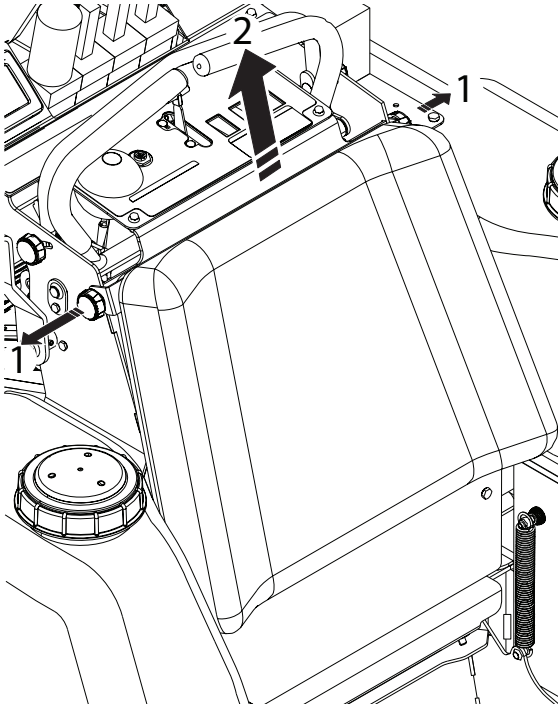

Figure 5-3. Operator Cushion and Rear Cover Removal
1. Loosen the two (2) wing nuts securing the operator cushion to the machine. See Figure 5-3.
2. Lift upward and back to remove the operator cushion. See Figure 5-3.